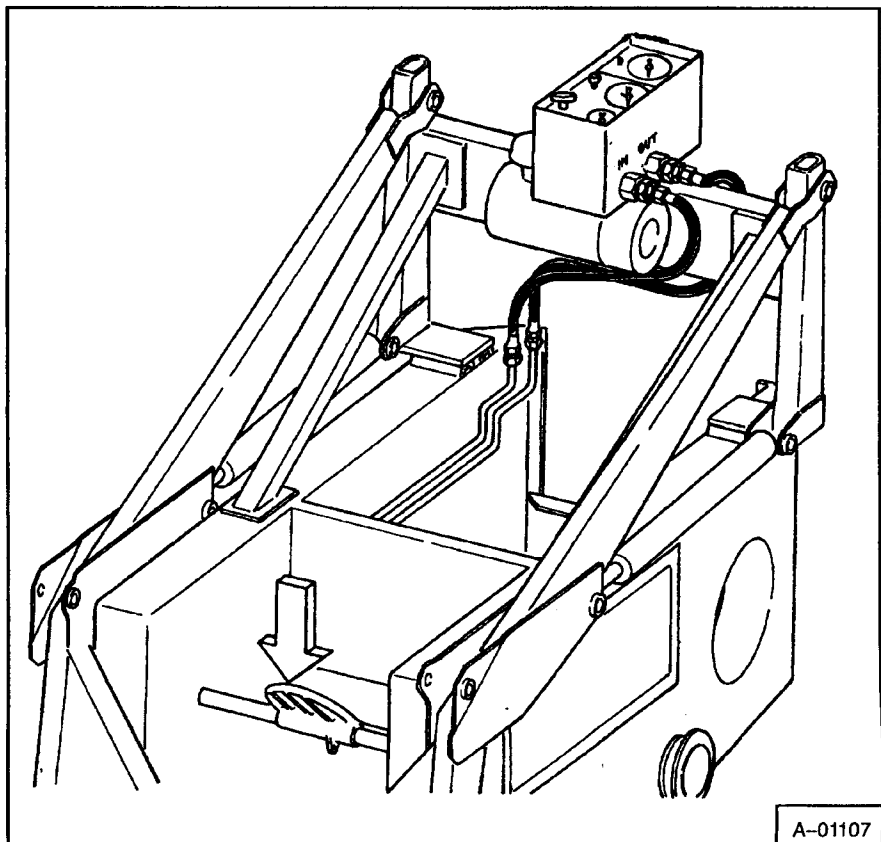

Fig. 4-4 Testing Hydraulic System
1. Connect tester to the auxiliary hydraulic tubelines at rear of loader (Fig. 4-4).